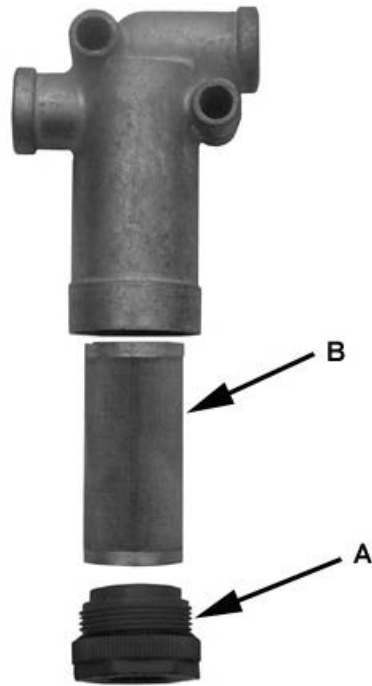

Figure 7-6 – Air In-Line Filter
Your trailer may be equipped with air inline filters. Filters are mounted on the inside of the frame rail. Every six months, relieve the air press in the trailer air tanks and remove the cap (A) and filter screen (B). See Figure 7-6 on page 36. Clean and install filter screen and cap.